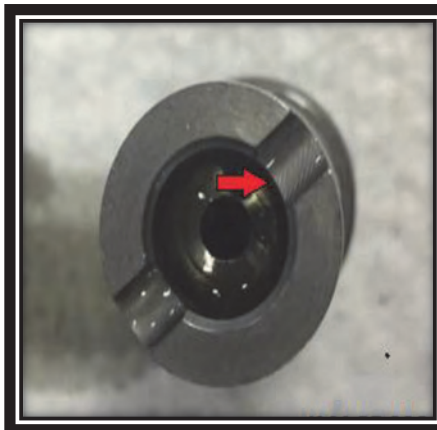
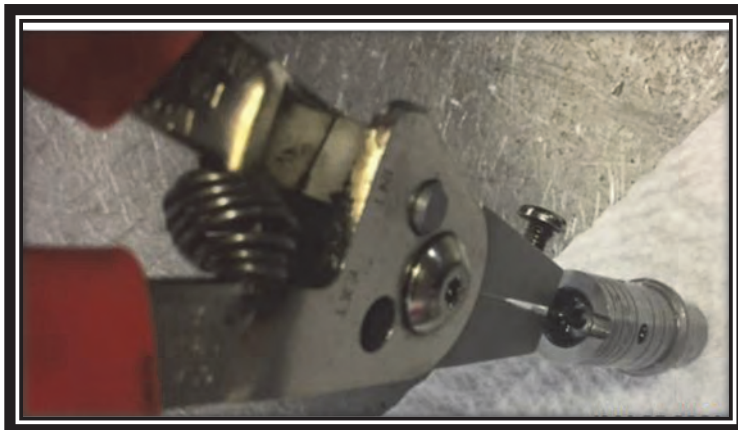

FIG. 4-2
FIG. 4-3
- Once the spool is removed, flip it over to expose the snap ring. Using the snap ring pliers remove the snap ring. Refer to FIG. 4-2 and FIG. 4-3.